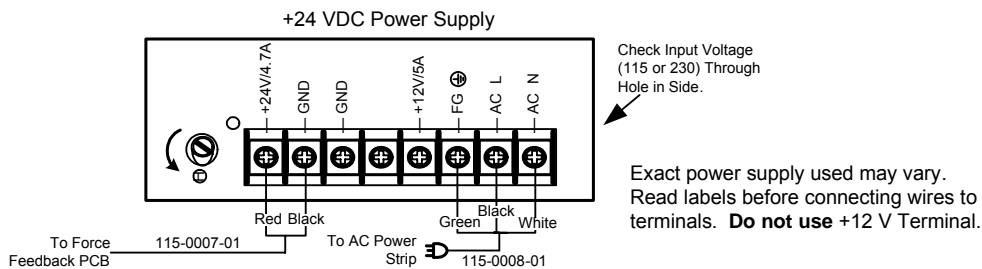

Figure 68. +24 VDC Power Supply Connections
5. Replace the power strip with an appropriate unit from GLOBAL VR®. Do not attempt to use a different power strip. Be sure to connect each wire to the correct terminal. (See Figure 68 on page 76.)